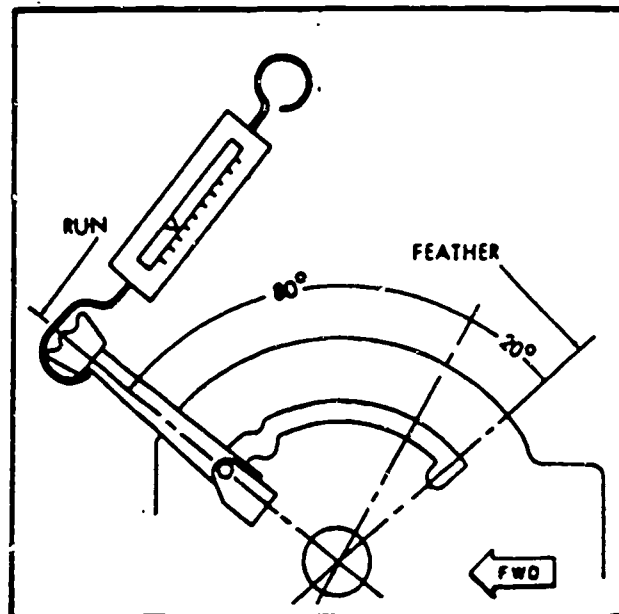

Figure 8. Spring Scare Check of Condition Lever.
6. Move the condition lever to the RUN position. Pull the condition lever back to the FEATHER position with a spring scale. The spring scale reading should be between 13 and 15 pounds when the condition lever gets to the FEATHER detent, see figure 8.